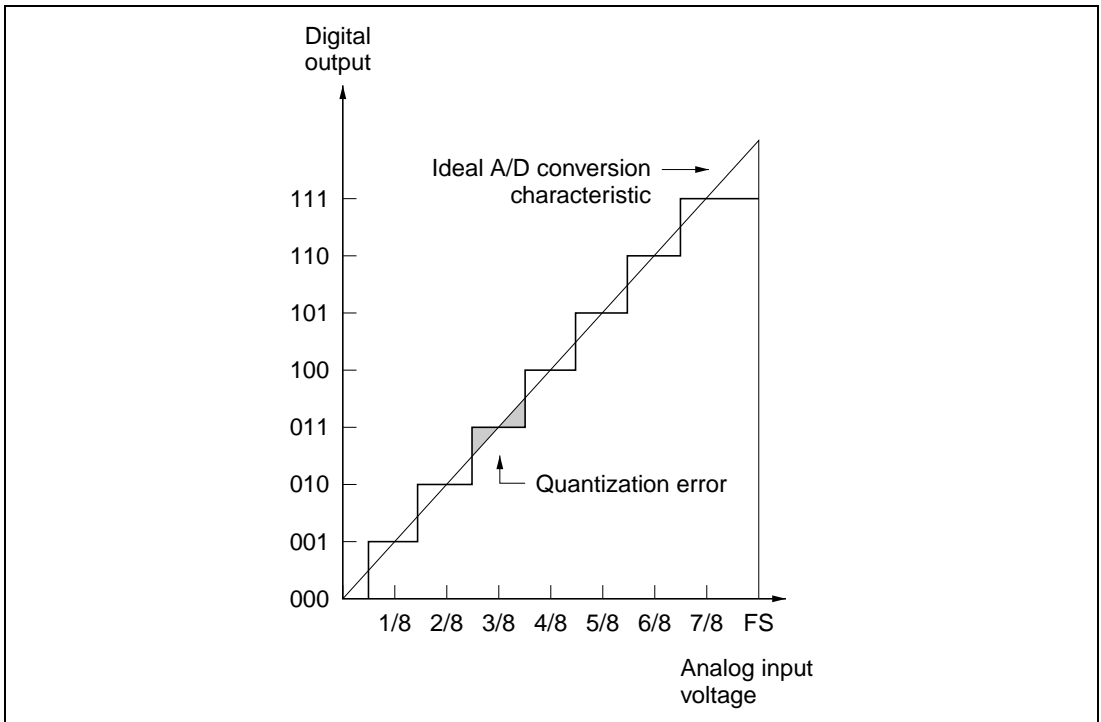

Figure 15.9 A/D Converter Accuracy Definitions
- Quantization error:Intrinsic error of the A/D converter; 1/2 LSB (figure 15.9)